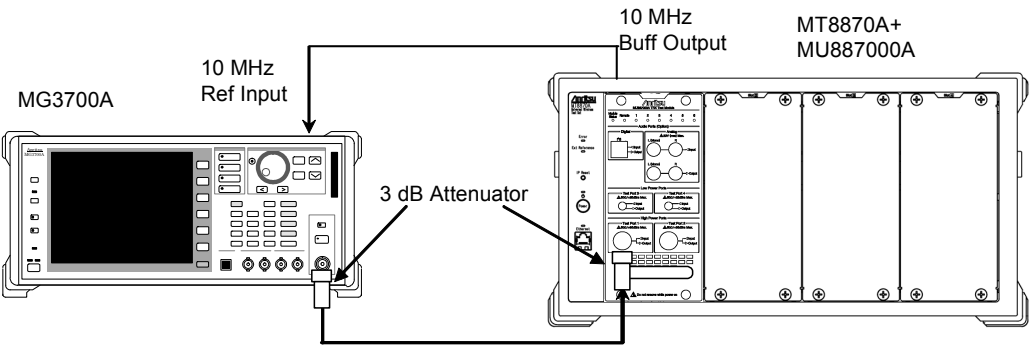

Figure 6.3.5-1 Setup for Measuring Amplitude Measurement Accuracy
1. Setup the instruments as shown in Figure 6.3.5-1.